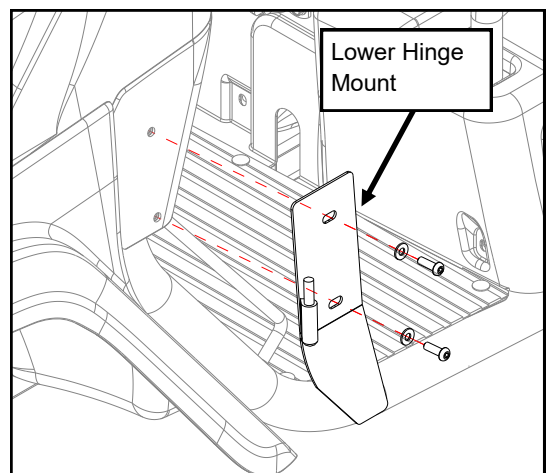

Fig. 8
8. Install left Lower Hinge Mount to the vehicle using (2) M8 button head cap screws and steel washers, as shown. Leave finger tight. (see fig. 8)